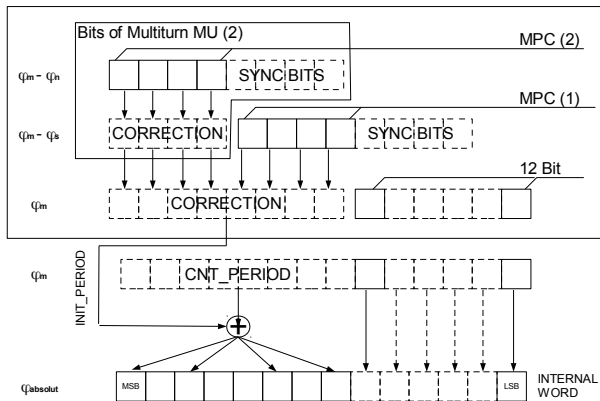

Figure 43: Principle of the synchronisation of a 3-track nonius system using 2 iC-MU without further multitrurn data
Figure 43 shows the principle of the synchronisation of the data from iC-MU (2) to iC-MU (1).